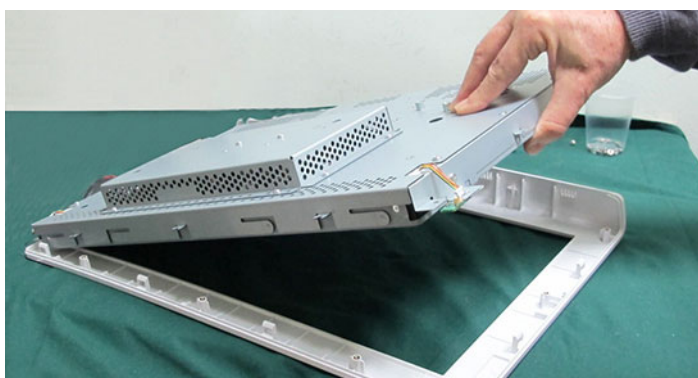

Figure 8-53 Removing the Monitor from the Front Cover
4.) Lift the monitor up and release it from the front cover - Figure 8-53.
- 2.) Hold the monitor *face-down* and carefully position it inside the front cover, aligning the top of the monitor with the top of the cover - refer to Figure 8-53.